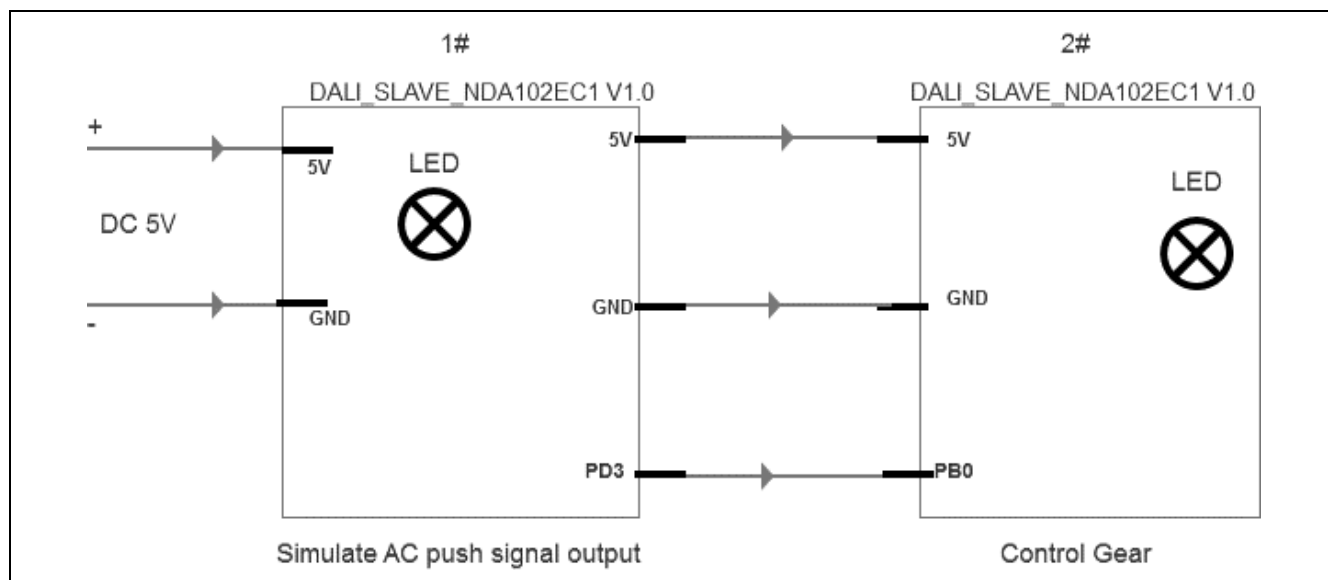

Figure 3-1 Hardware Connection Diagram
- Use two sets of DALI\_SLAVE\_NDA102EC1 V1.0 evaluation boards. Among them, 1# simulates PUSH button and PUSH signal output, and 2# is used for PUSH signal reception and PUSH dimming. The connection is shown in Figure 3-1.